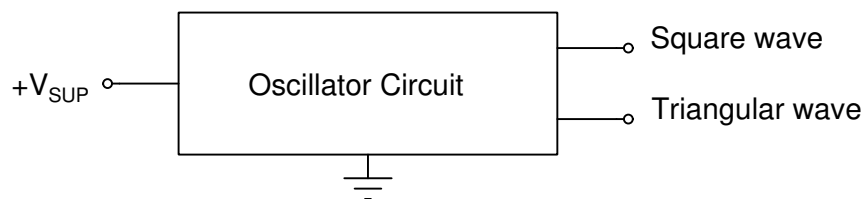
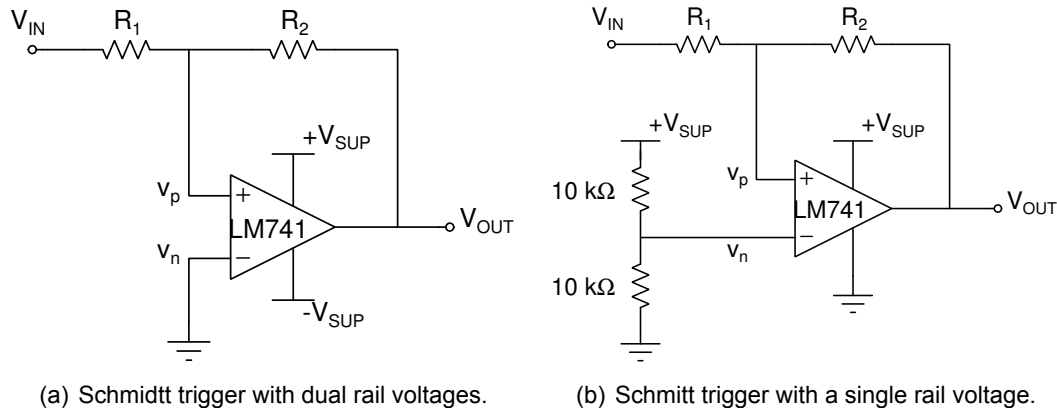
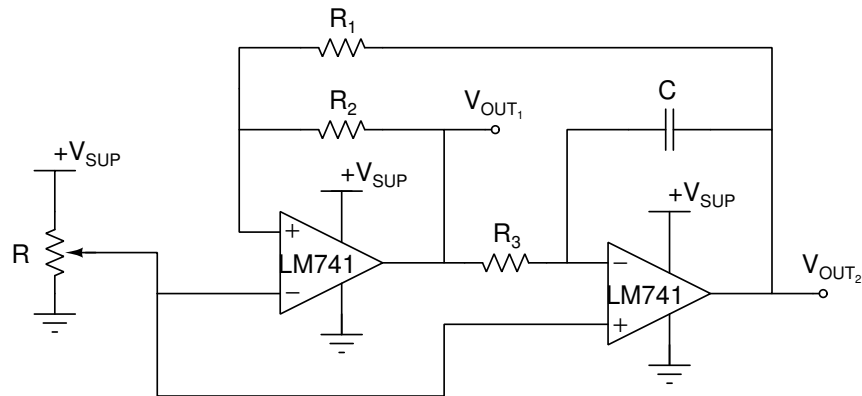

Figure 1: Block diagram of the oscillator circuit.
Figure 2: Schmitt trigger circuit using an Op Amp with positive feedback.
Figure 3: Oscillator circuit using a Schmitt trigger and an inverting integrator.
**Introduction:** Two LM741 Operational Amplifiers (OpAmps) are used to produce an oscillator. A system level block diagram is shown in **Figure 1**. The oscillator is formed by connecting the output of a Schmitt trigger, shown in **Figure 2**, to the input of an inverting integrator, and then connecting the output of the inverting integrator back to the input of the Schmitt trigger. The oscillator circuit is shown in **Figure 3**. The input to the circuit is a DC voltage of  $+V_{SUP}$ . The output of the circuit consists of a  $\sim 10 V_{pp}$  square wave and a  $\sim 5 V_{pp}$  triangular wave .
1. There are many ways to implement a Schmitt trigger. One method uses an OpAmp configured with positive feedback as shown in **Figures 2(a)** and **2(b)** for the dual-rail and single-rail OpAmp configuration, respectively. In both of these circuits, the output of the OpAmp ( $V_{OUT}$ ) is connected through resistor  $R_2$  to the **non-inverting** input ( $v_p$ ) of the OpAmp. This results in an amplifier circuit with positive feedback.
Assume the OpAmp in **Figure 2(b)** is ideal. Analyze this circuit and derive an equation for the two trigger levels in terms of the resistor values  $R_1$  and  $R_2$ . When  $R_1 = 3 \text{ k}\Omega$  and  $R_2 = 12 \text{ k}\Omega$ ,
- For the Schmitt trigger circuit in **Figure 2(b)**, determine values for resistors  $R_1$  and  $R_2$  so that the separation of the Schmitt trigger levels are  $5 \pm 0.2$  V. Assume the OpAmp is ideal and  $+V_{SUP} = 12$  V. With the chosen values of  $R_1$  and  $R_2$ , what are the two Schmitt trigger levels?
- Simulate the transfer function of the Schmitt trigger circuit in **Figure 2(b)** with the resistor values you calculated in step 2. Set the power supply voltage ( $+V_{SUP}$ ) to 12 VDC, and set the input voltage ( $V_{IN}$ ) to a DC voltage source. Use DC analysis to sweep the input voltage between 0 to 12 V. A MATLAB® file for NGspice is available at [https://ece214.davidkotecki.com/docs/Matlab/ECE214\\_2020\\_Lab5\\_Schmitt.m](https://ece214.davidkotecki.com/docs/Matlab/ECE214_2020_Lab5_Schmitt.m). Analyze the simulated behavior of the circuit using the ideal OpAmp and the LM741 OpAmp.
- Describe the function of the circuit shown in **Figure 3**. Assume the variable resistor is set to the mid-point resistance. Sketch the shape of the expected output signals  $V_{OUT_1}$  and  $V_{OUT_2}$  as a function of time.
8. Perform a transient simulation of the circuit of Figure 3 using the Ideal OpAmp. What is the simulated value of the oscillation frequency? What is the duty cycle? A MATLAB® file for NGSpice is available at [https://ece214.davidkotecki.com/docs/Matlab/ECE214\\_2020\\_Lab5\\_Osc.m](https://ece214.davidkotecki.com/docs/Matlab/ECE214_2020_Lab5_Osc.m).
9. Perform a transient simulation of the circuit of Figure 3 using the LM741 OpAmp. Since the OpAmp is not ideal, the value of  $R_3$  you calculated may be off by as much as 20%. Adjust the value of  $R_3$ , if needed, to produce an oscillation frequency of  $5 \pm 0.2 \text{ kHz}$ .